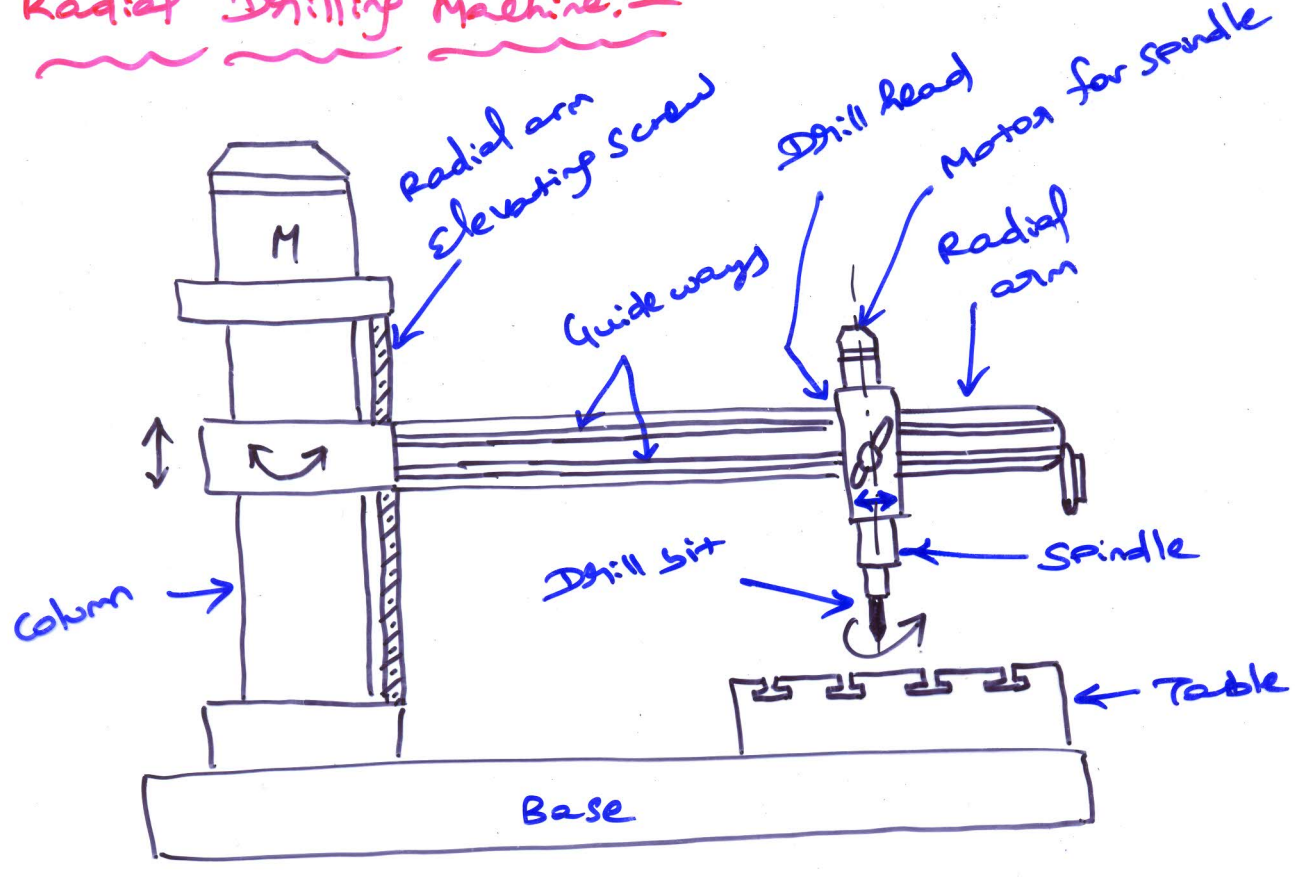

Fig: 4
④ Radial drilling machine:- [See: Fig. 4]